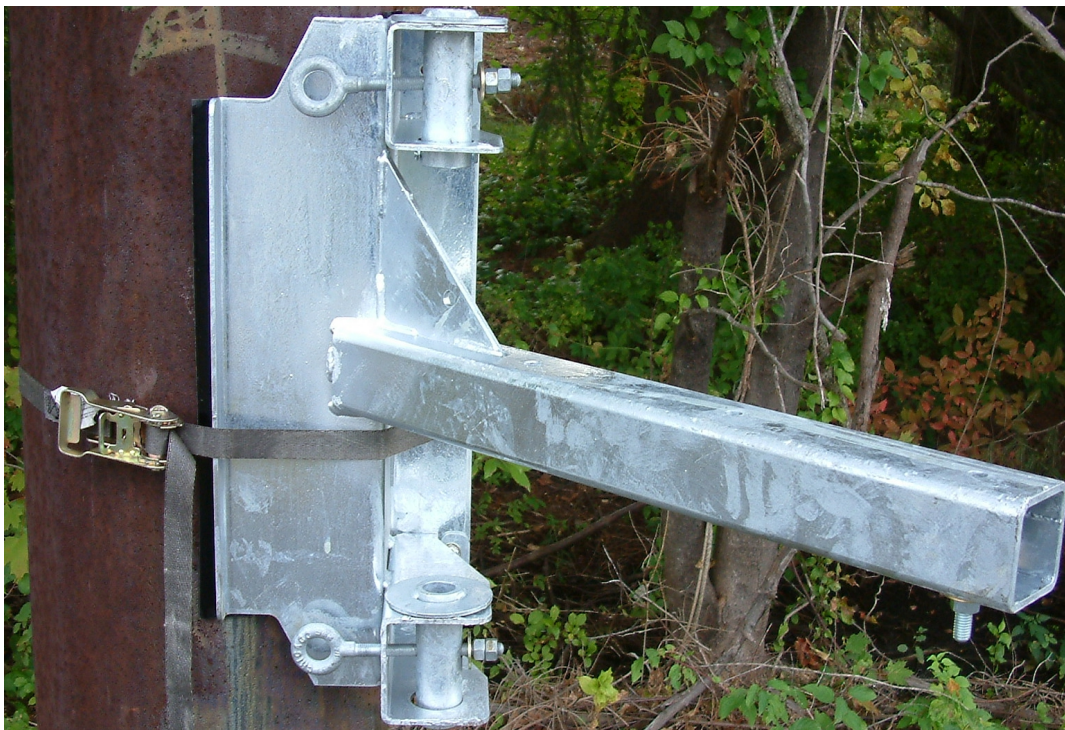

Figure 3. Using a Ratchet-strap to easily Position PM1-17-G.
- Ratchet-strap (for holding PM1-17-G while positioning as seen in figure 3)